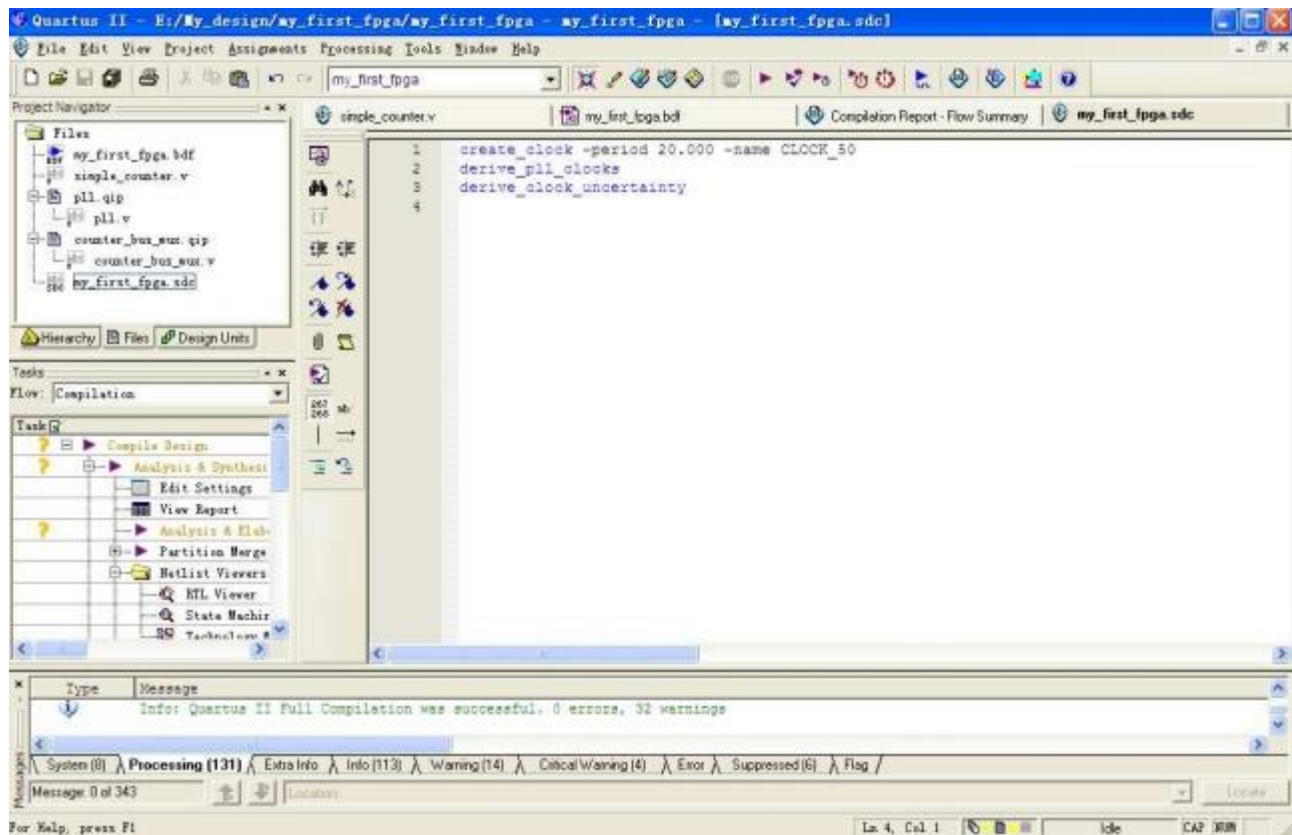

Figure 3-32 Default SDC
4. Save this file as my_first_fpga.sdc (see Figure 3-32)